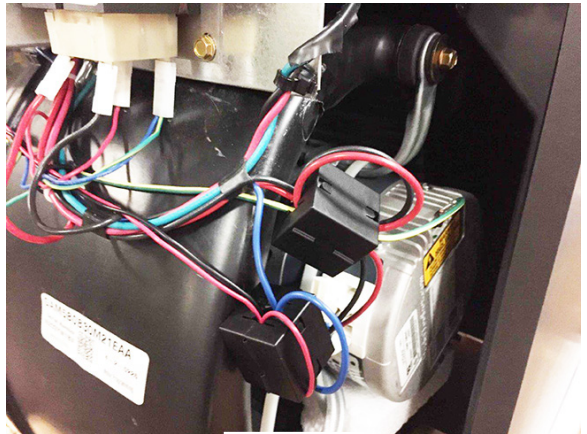

FIGURE 7
6. For units with a CTM motor, place a second ferrite bead on the low voltage wires. There should be at least one loop made in the low voltage wires, so the wires pass through the ferrite bead twice. See Figure 7.